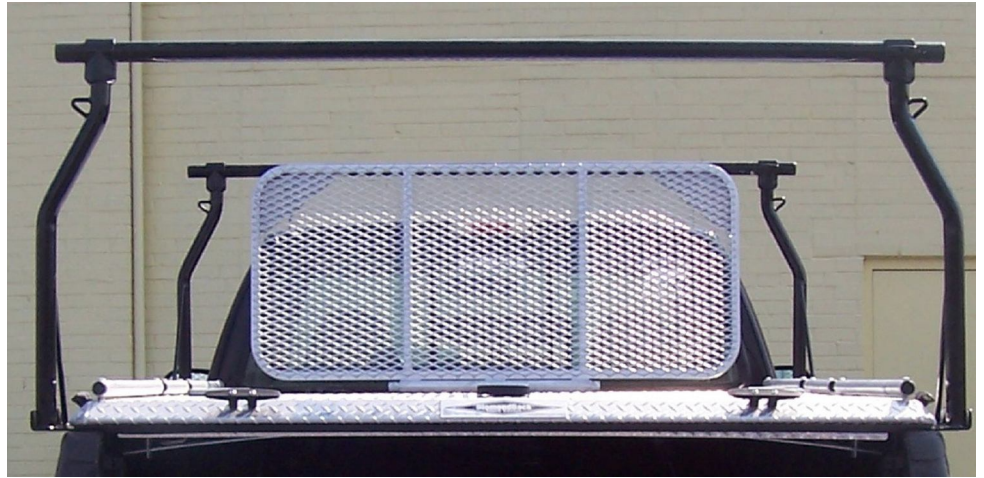
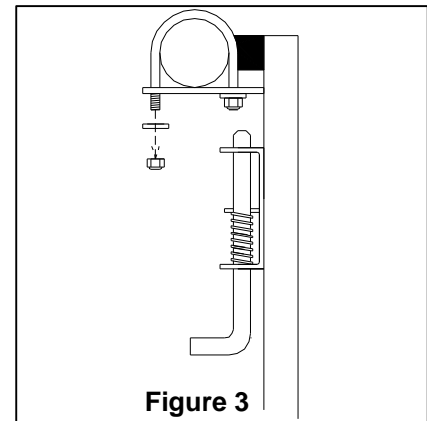

Figure 2
Figure 3
4. Center the Cab Guard left to right on the cab panel with the top of the Cab Guard frame resting entirely against the cab cross bar of the Ladder Rack (**Figure 2**).
5. Using a permanent marker, mark the location of the (2) 5/16" bolts that mount the Cab Guard hinge to the top of the cover.
10. Secure the latch plate to the cross bar using the U-bolts as shown in **Figure 3**.